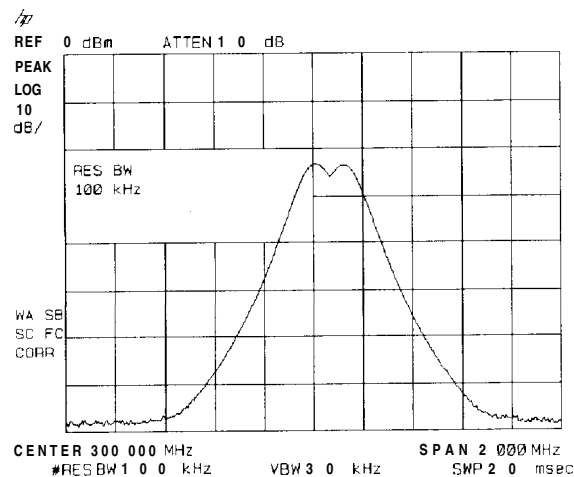

Figure 3-2. Resolving Signals of Equal Amplitude
Generally, to resolve two signals of equal amplitude, the resolution bandwidth must be less than or equal to the frequency separation of the two signals. If the bandwidth is equal to the separation a dip of approximately 3 dB is seen between the peaks of the two equal signals, and it is clear that more than one signal is present. See Figure 3-2.
4. Since the resolution bandwidth must be less than or equal to the frequency separation of the two signals, a resolution bandwidth of 100 kHz must be used. Change the resolution bandwidth to 100 kHz by pressing **BW** 100 **(kHz)**. Two signals are now visible as in Figure 3-2. Use the knob or step keys to further reduce the resolution bandwidth and better resolve the signals.